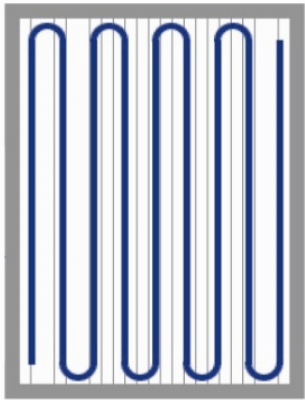

Fig. 1 - Correct cleaning of a sports floor by walking the machine along the length of the floor boards.
1. Make sure the machine is approved by the machine manufacturer for cleaning wooden floors. Cleaning of sports floors should always be done by walking the machine along the length of the floor boards, **see Figure 1**.